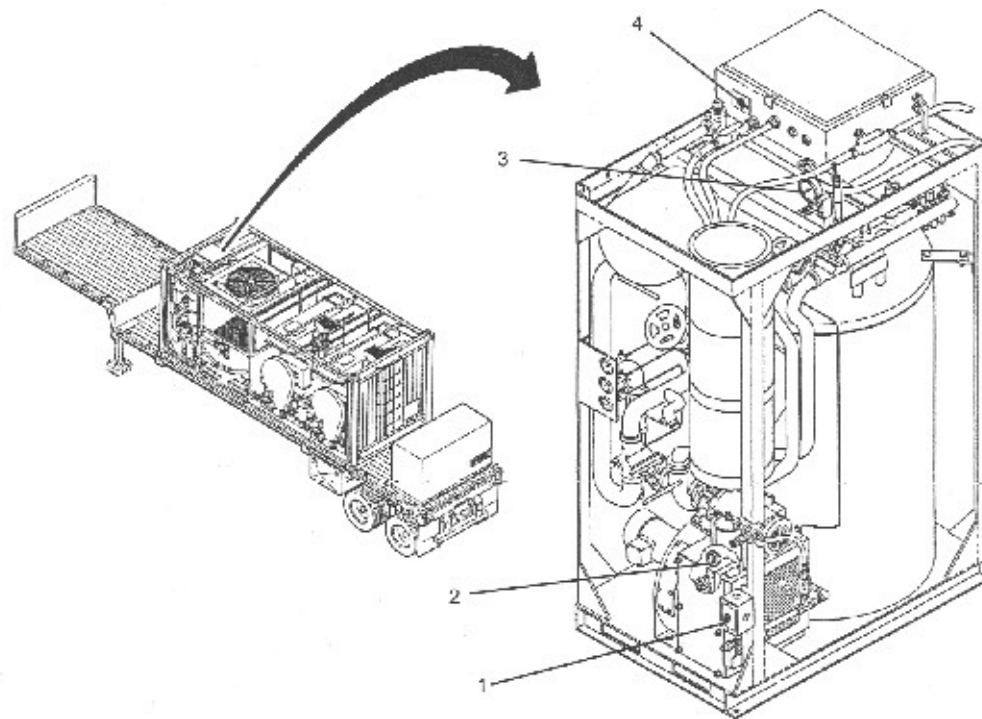

Figure 3-35
d. HEATER CONTROLS AND INDICATORS, Figure 4 shows the location of the controls and indicators found on the heating system. Below describes the use of these controls and indicators. (See Figure 3-35)